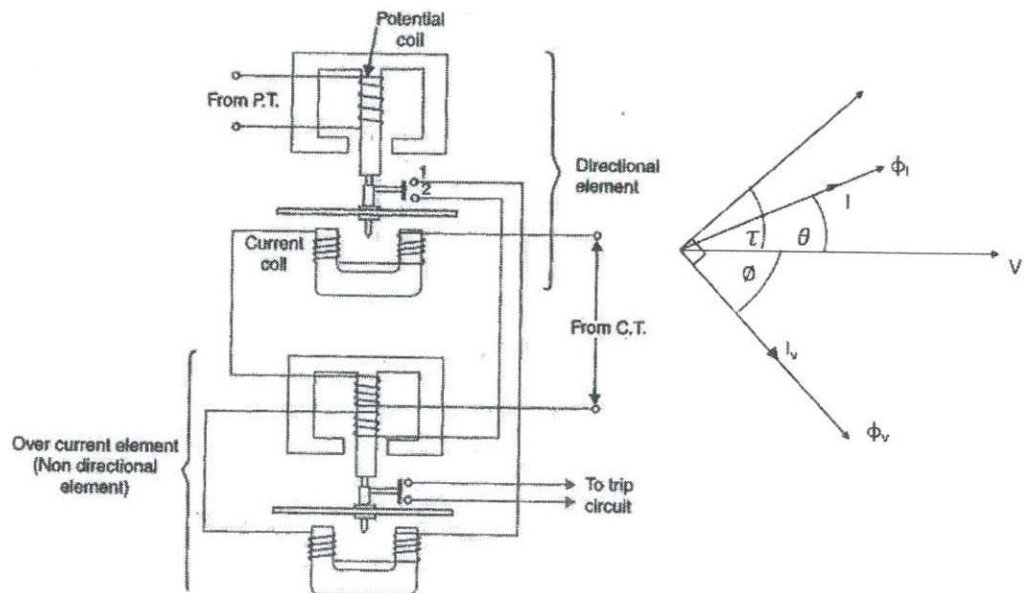

Figure Q2a
ii) Figure Q2a shows the construction and the phasor relationship between the input voltage (V) and the input current (I) of an induction type directional overcurrent protection relay. Φ_v and Φ_i are the magnetic flux produced by the input voltage and the input current respectively. τ is the maximum torque angle. Explain the working principle, the torque equation and the operational characteristic of the directional over current relay. [6.0 Marks]